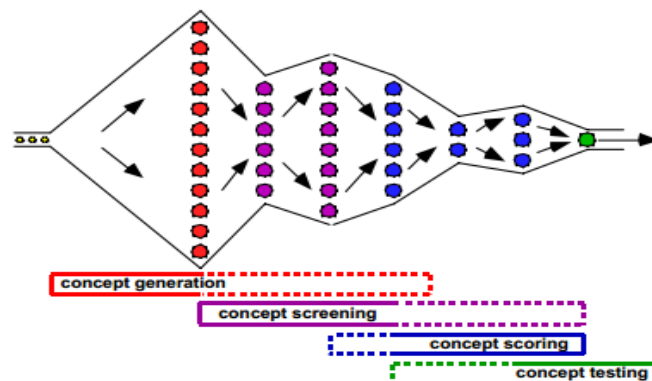

Figure Q4a: Concept Selection
a) Explain how the concept selection process is accomplished with reference to Figure Q4a below. [6]